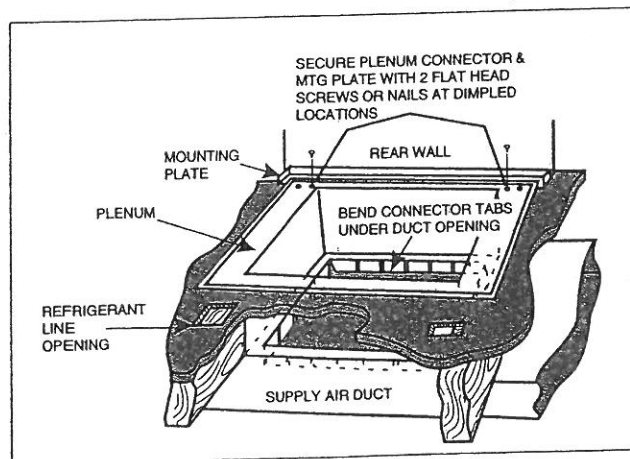

Figure 6. Plenum Connector
4. Secure the plenum connector to the floor with two flat-head screws or nails at the dimpled locations (see Figure 6).